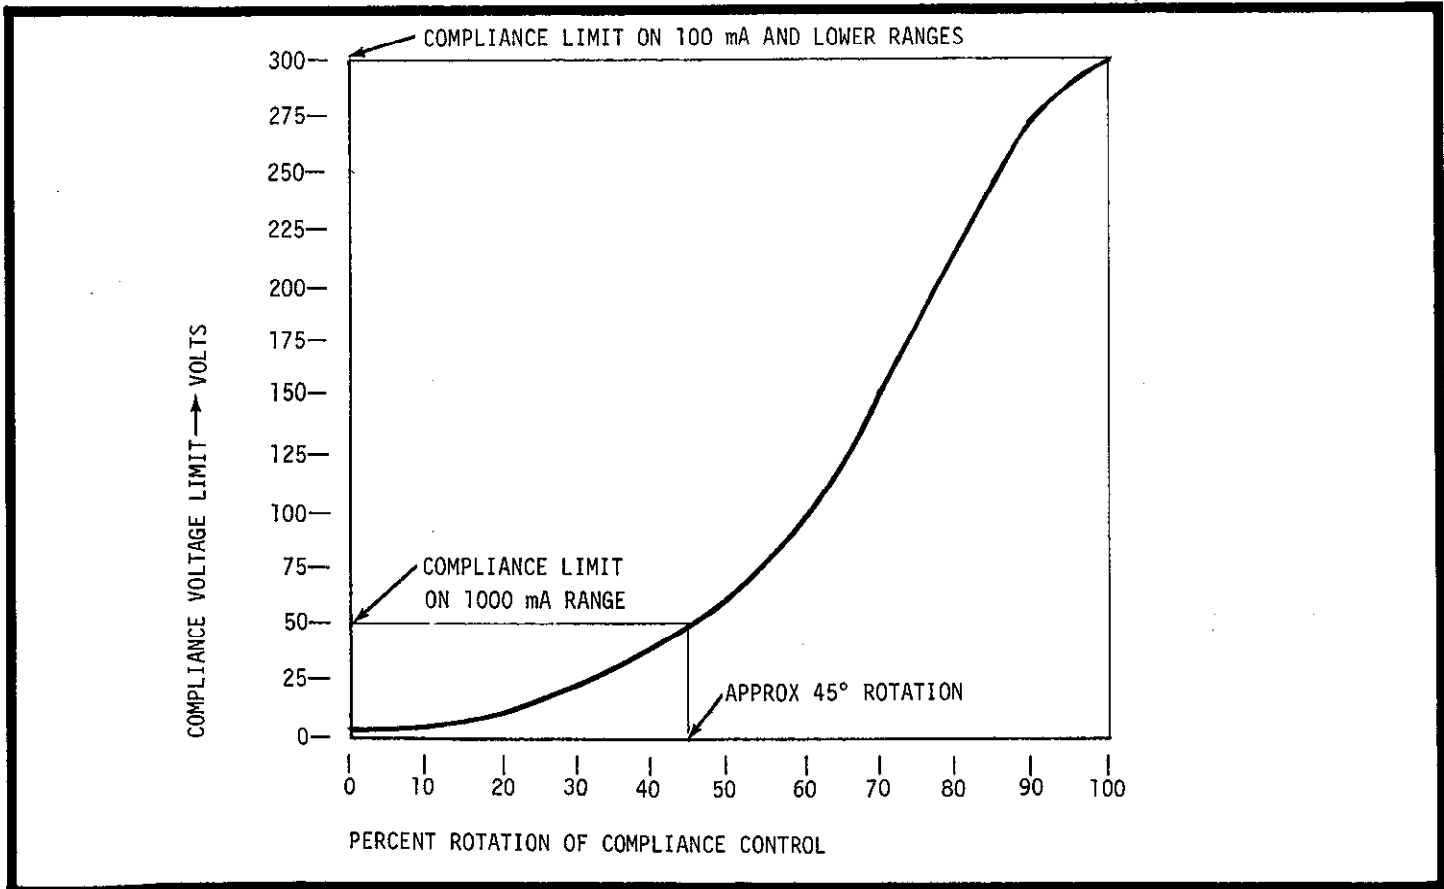

FIGURE 9. Voltage Output Versus % Rotation for Compliance Control.
2. This control has a tapered resistance such that greater resolution is provided for compliance voltage settings under 60 volts. Figure 9 shows the voltage output versus % rotation of the control.